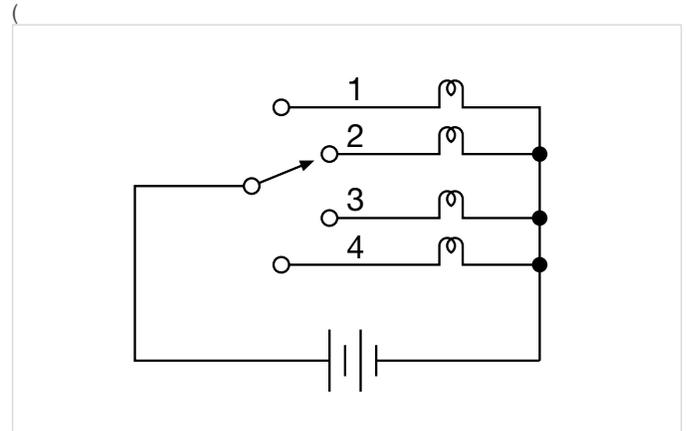

Figure 9. Scanner to indicate elevator location.
**Figure 9** illustrates an example of a scan configuration. In this diagram, the battery is connected to only one lamp at a time, such as in an elevator’s floor indicator system. Another example is a scanner for monitoring temperatures at several locations using one thermometer and multiple sensors. Typical uses of scanner switching include burn-in testing of components, monitoring time and temperature drift in circuits, and acquiring data on system variables such as temperature, pressure, and flow.